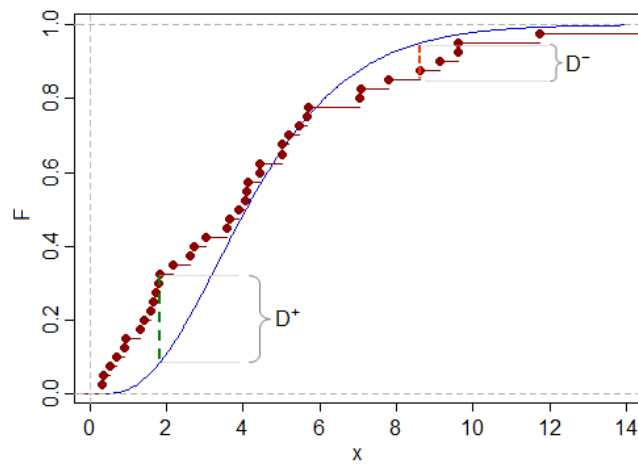

Figure 3.4: Kolmogorov-Smirnov Test. The  $D$  statistic is  $D_+$  in the figure.
**Definition 16** (Kolmogorov–Smirnov GOF Test). Assume an i.i.d. sample  $x_1, \dots, x_n$ . The Chi-Square GOF is a tests  $H_0 : \mathbf{x}_i \sim P$  versus  $H_1 : \mathbf{x}_i \not\sim P$ .  $P$  is assumed to be continuous. The test statistic,  $D$ , is depicted in Figure 3.4.